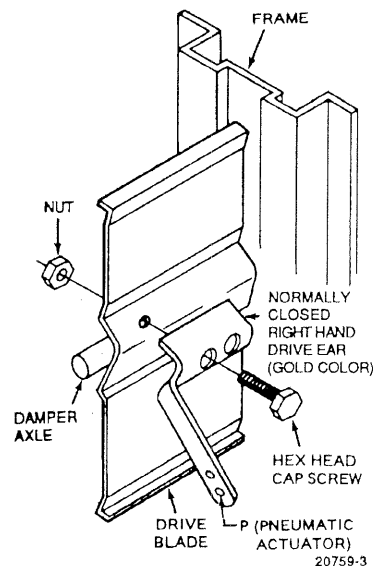

Fig. 2. Normally Closed Drive Ear Mounting.
- Right-Hand Drive Ear Hardware Assembly (Fig. 2): 14004313-001 (for internal normally closed mounting)